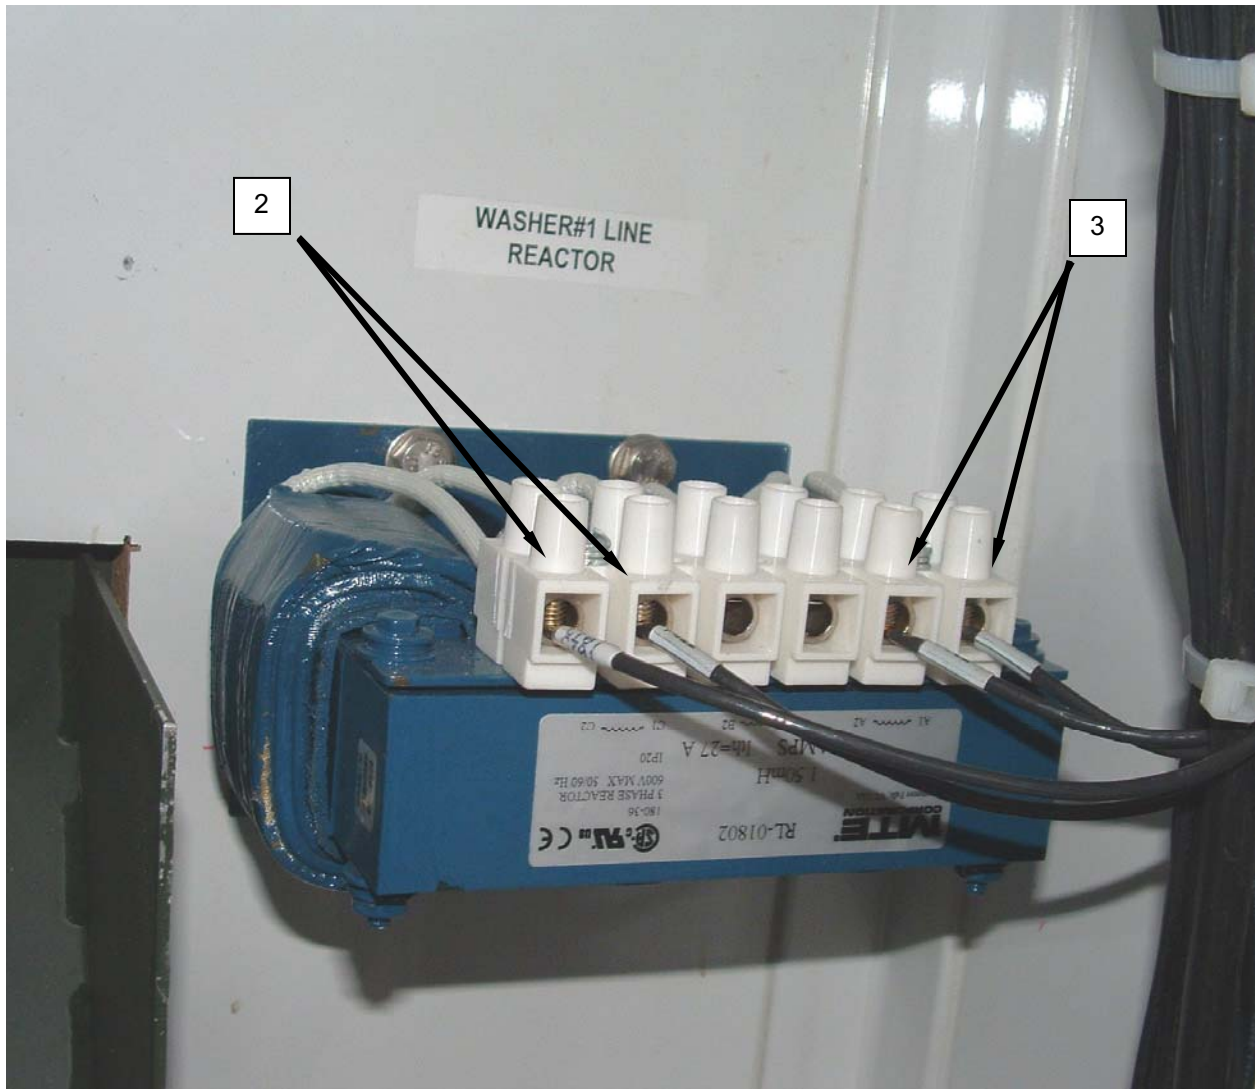

Figure 2. Test the Line Reactors.
4. Use a voltmeter to test for 208 VAC at reactor output terminals (**Figure 2, Item 2**).
5. Use a voltmeter to check for 208 VAC at reactor input terminals (**Figure 2, Item 3**).
8. Use an ohmmeter to test for a short to ground from both the reactor output terminals (**Figure 2, Item 2**) and the reactor input terminals (**Figure 2, Item 3**).